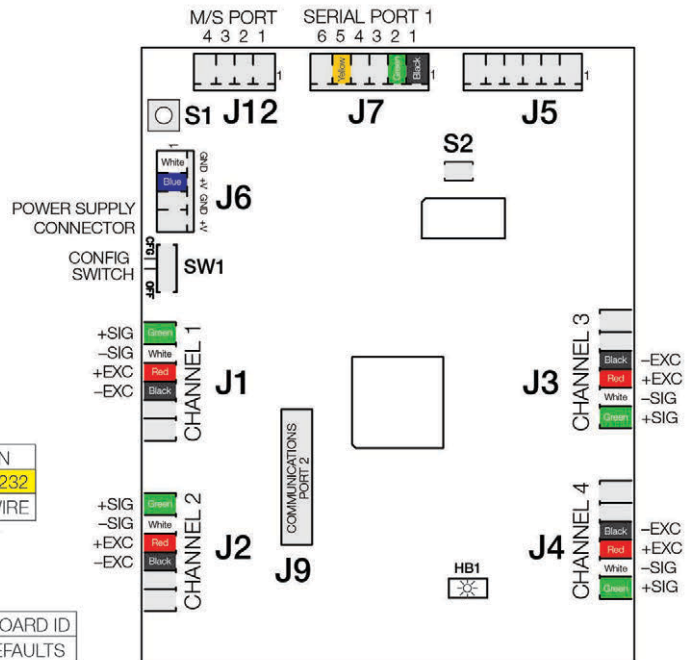

Figure 2-4. CPU Board
4. Carefully align the option card connector with J9 on the CPU board (Figure 2-4 on page 19) and the standoffs.